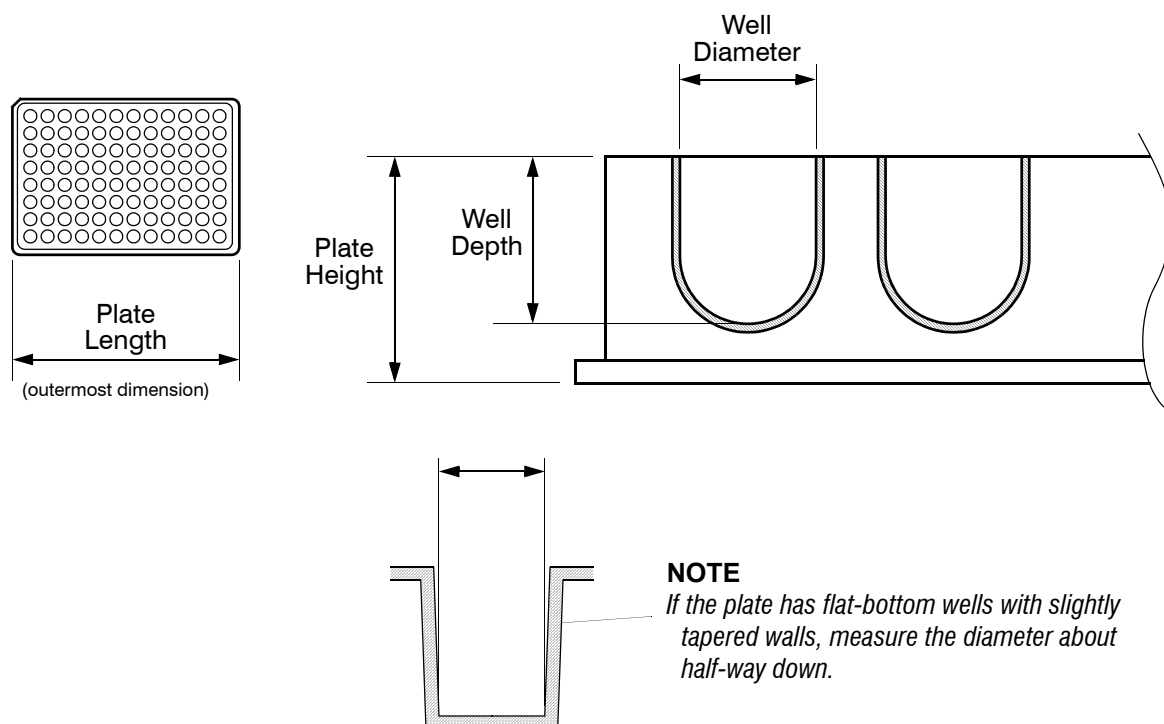

Figure 10.6 Plate Dimensions
- ☐ **Set Plate Dimensions** - enter the plate length, plate height, well diameter and well depth in the appropriate entry fields. Figure 10.6 explains exactly what these dimensions are. *This step is mandatory.*